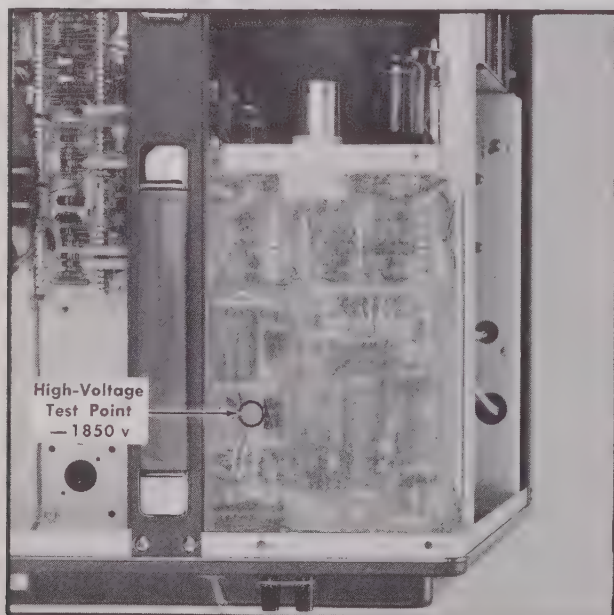

Fig. 5-3. High-voltage test point location.
- a. Set the scale of the VOM to measure —1850 volts and connect the VOM between the high-voltage test point (see Fig. 5-3) and ground.